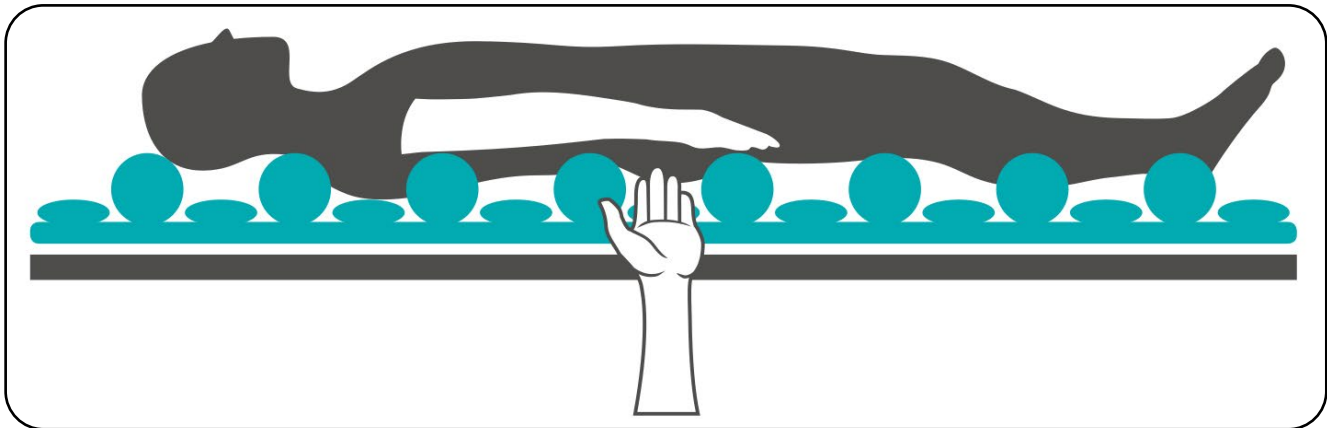

Fig. 8.1.01 – Performing the hand test
While using the product, check the support pressure between the patient and the alternating pressure mattress regularly by applying the hand test (Fig. 8.1.01).
11. Now check the set pressure using the hand test. Slide your flat hand between the buttocks of the patient and the deflated cell of the alternating pressure mattress. For optimum positioning, there must be a distance of approximately 3–4 cm between the buttocks and the deflated cell (Fig. 8.1.01).